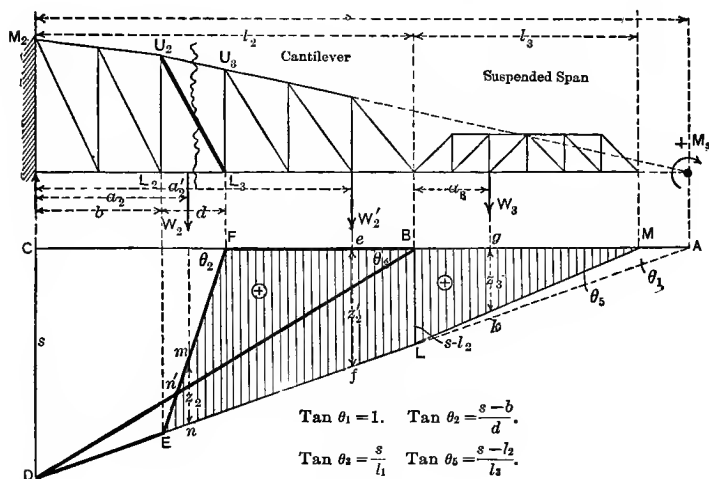

FIG. 33.
**Diagonal of Cantilever Span.**—Referring to Fig. 33, for loads in the cantilever span  $M_L = -W_2 a_2$ ,  $M_R = 0$ , and
The influence diagram for  $m_s$  is the *base diagram* shown by the heavy lines in Fig. 33. From the triangle  $DBL$ ,